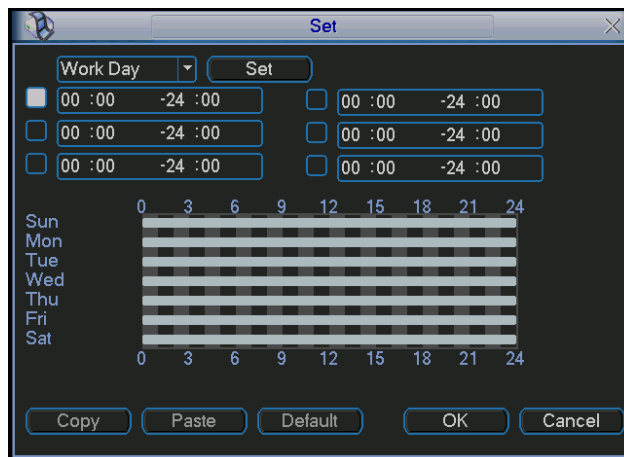
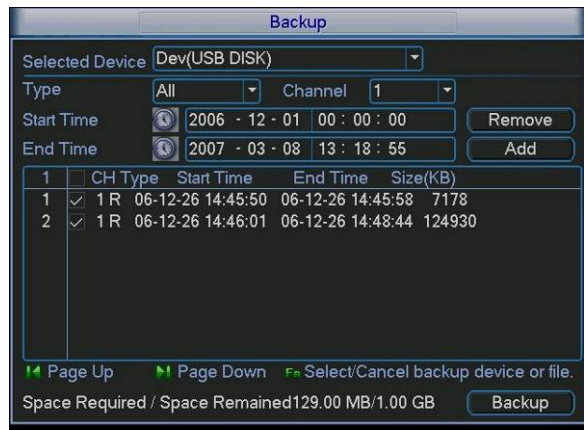
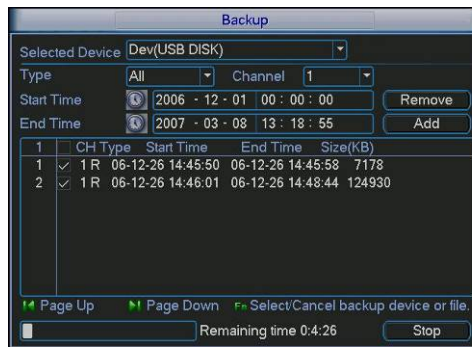

Figure 4-25
Figure 4-28
Figure 4-29
- Period: Click set button, you can see an interface is shown as in Figure 4-25. Here you can set for business day and non-business day. In Figure 4-28, click set button, you can see an interface is shown as in Figure 4-29. Here you can set your own setup for business day and non-business day.
Click add button, system begins search. All matched files are listed below. System automatically calculates the capacity needed and remained. See Figure 4-28.
Click backup button, system begins burning. At the same time, the backup button becomes stop button. You can view the remaining time and process bar at the left bottom. See Figure 4-29.